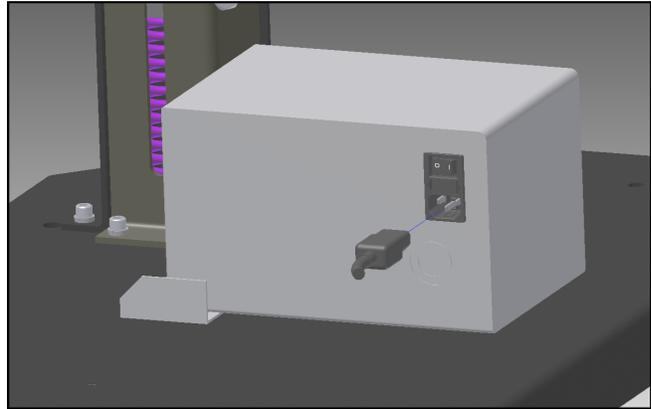

Figure 8-1A. Electrical Connections
4. Place the female end of the electrical cord provided into the back of the machine, **Figure 8-1A.**